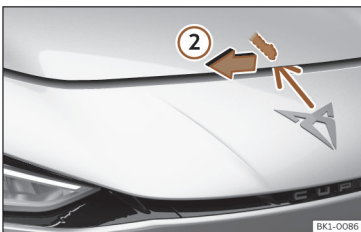

Fig. 174 Lever under the bonnet.
- To lift the bonnet, press towards the left on the lever located under the bonnet, in the centre >>> **Fig. 174** ②. The fastening hooks are unlocked.